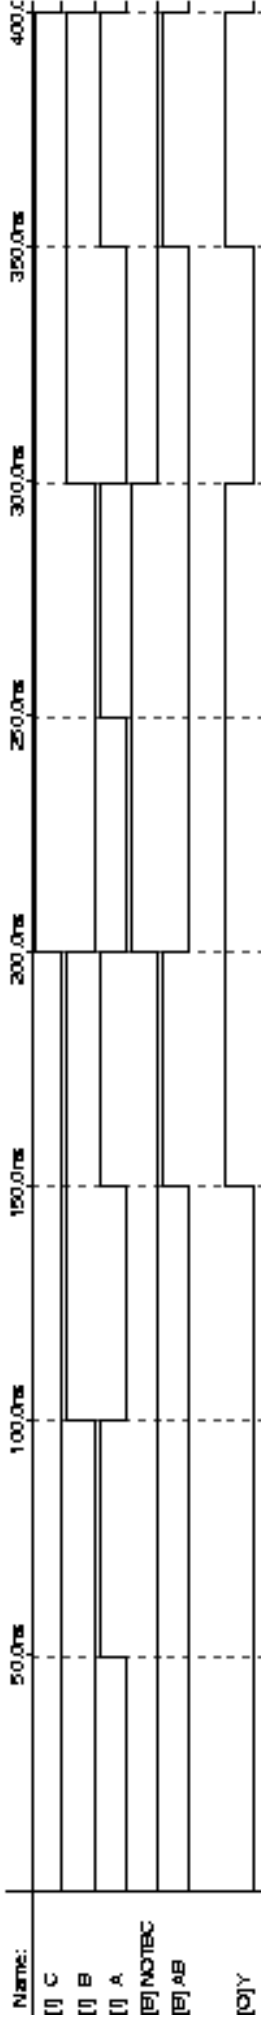

FIGURE 4. SIMULATION OUTPUT (INPUTS UNGROUPED)
- Highlight C, B and A in the Waveform Editor and then select **Enter Group** (Node menu). Give the group a name such as CBA, which identifies the order the signals were grouped. (You can verify the order later.) With the group highlighted, click the right mouse button to bring up a pop-up menu and select Overwrite > Count Value. This will generate all 8 possible input combinations for the input signals. At this point, you can Ungroup your inputs to check that the name accurately reflects the group. For example, when CBA = 1, signals C and B should be 0 and A should be 1. You can simulate with the signals either grouped or ungrouped, whichever you prefer. See Figure 4 for an example simulation output with the input signals ungrouped.